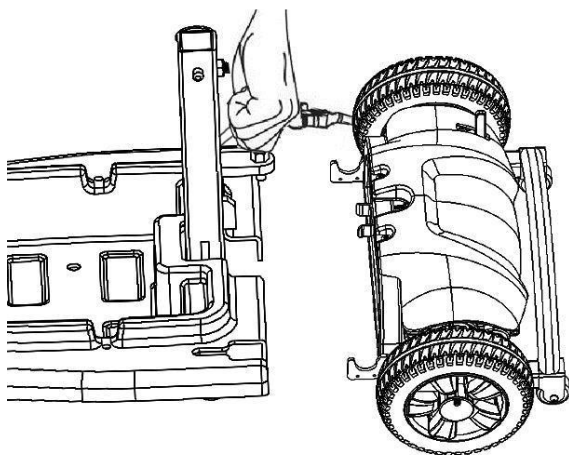

Fig. 5.1.3
5. Pull the connecting device upward and the front section will be apart from the rear section. (See the Fig. 5.1.3)